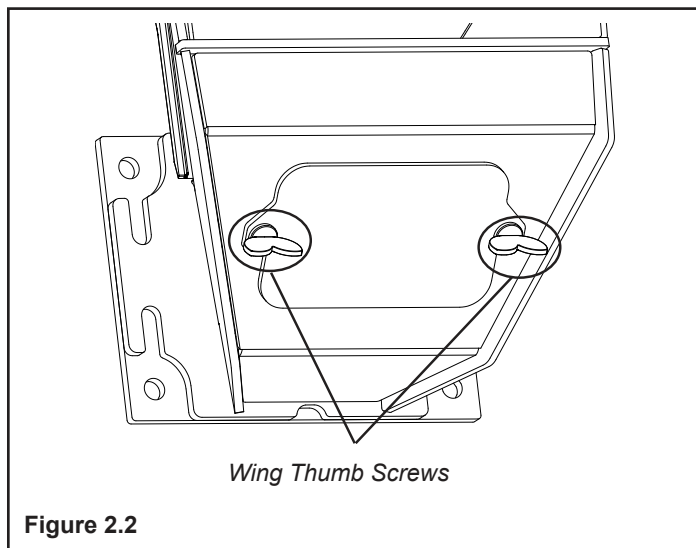

Figure 2.2
- Loosen the (2) wing thumb screws on the lower front angle of the burn pot. Figure 2.2